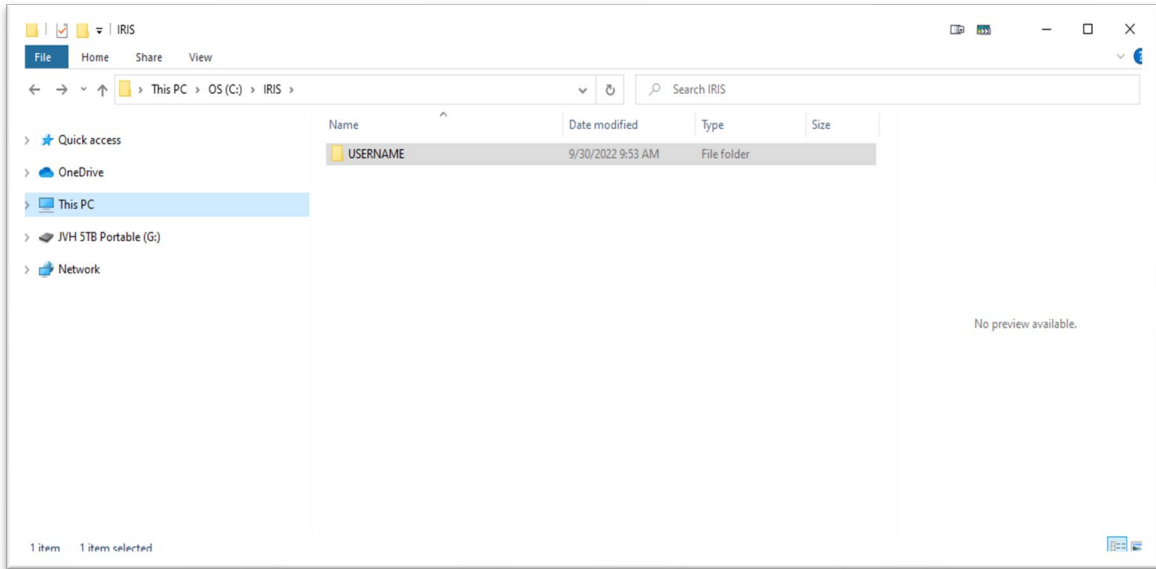

Figure 1. iRIS Installer Folder Creation
3. The installer will create a folder named, *C:\IRIS\<USERNAME>*. *See Figure 1*